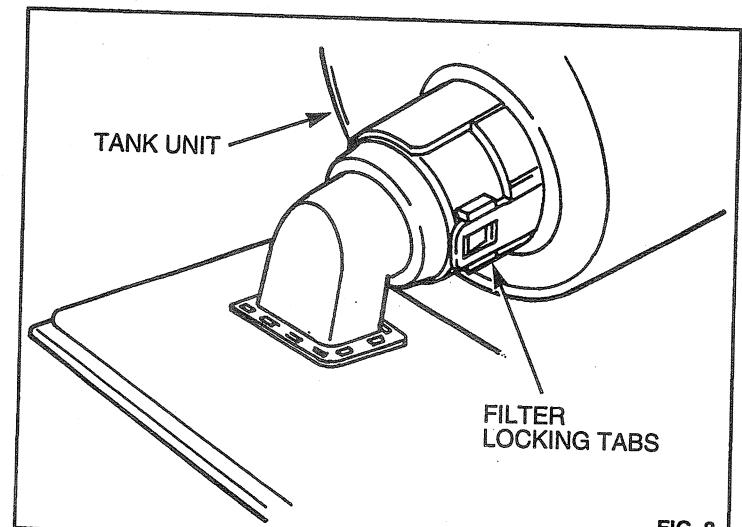

FIG. 3
I) Obtain the new tank unit. Assure the tank seal is properly positioned on the underside of the tank unit flange. Also check to insure the filter locking tabs are engaged with the tank unit. (See Fig. 3) If the tank unit has the level sender/float arm assembly on it, be sure it operates freely.